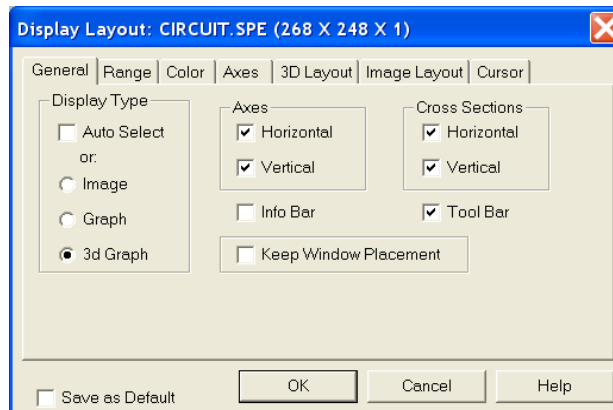

Figure 55. Display Layout dialog
4. Select **Layout** on the **Display** menu. The **Display Layout** dialog will open as shown in Figure 55.